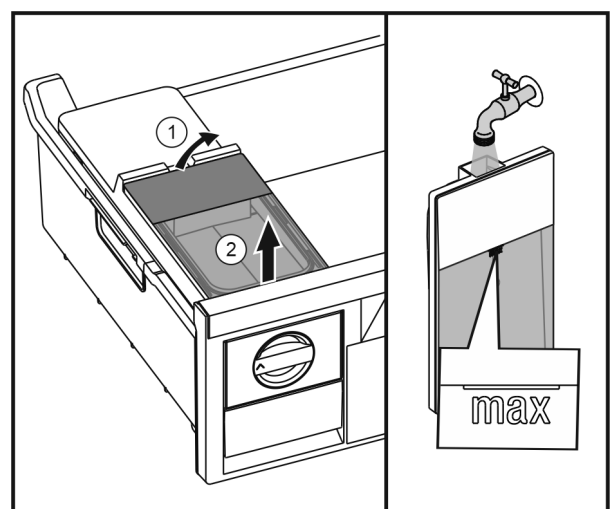

Fig. 29
- ▶ Lift up the water tank at the rear Fig. 29 (1) and remove to the top Fig. 29 (2).